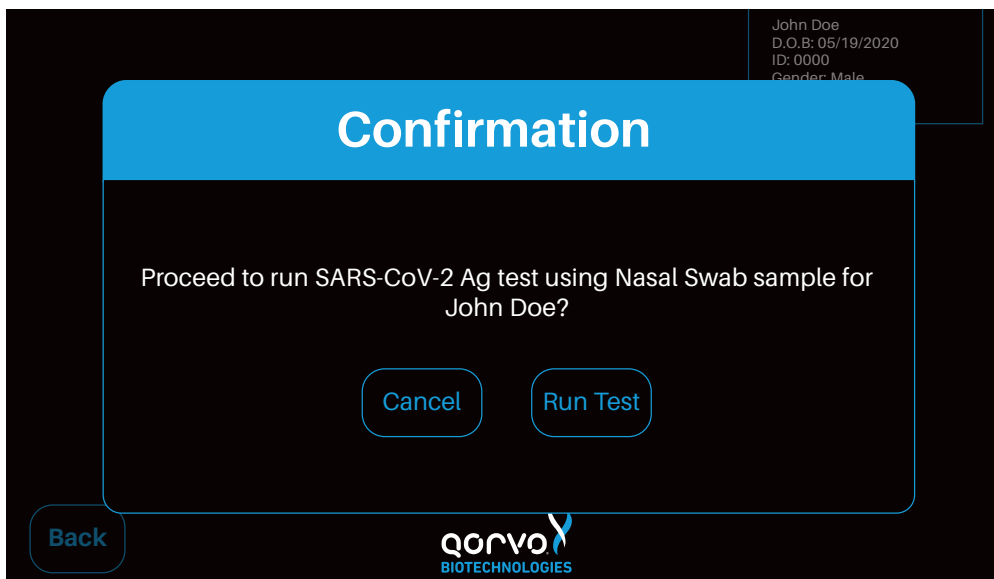
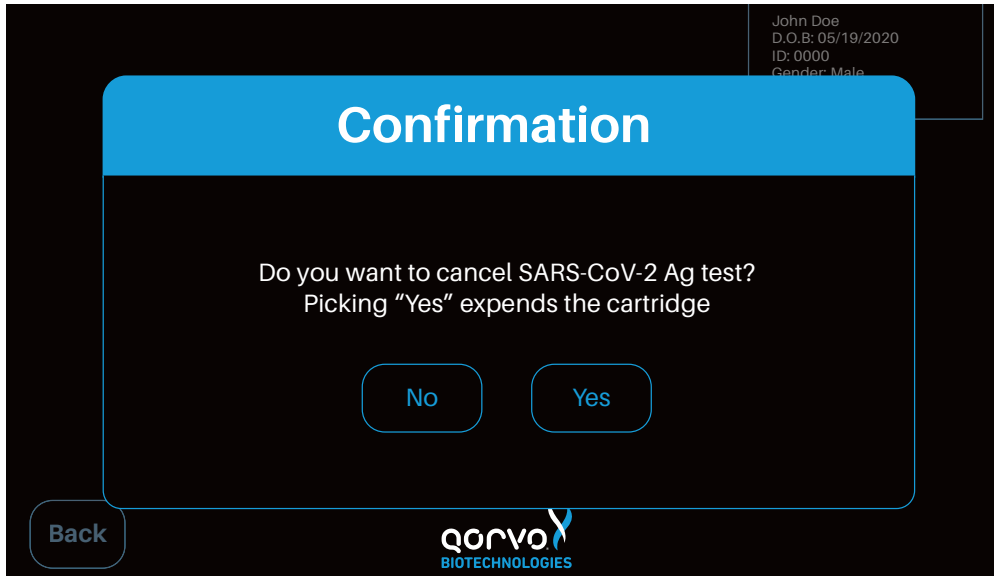

Figure 31a
Figure 31b
- After the cartridge has been read, a confirmation panel will appear where you can press "Run Test" to proceed with the test or "Cancel" to cancel the test (Figure 31a). If "Cancel" is pressed, the system will eject the cartridge and return to the Main Menu (Figure 31b). If "Run Test" is pressed, the test will proceed.